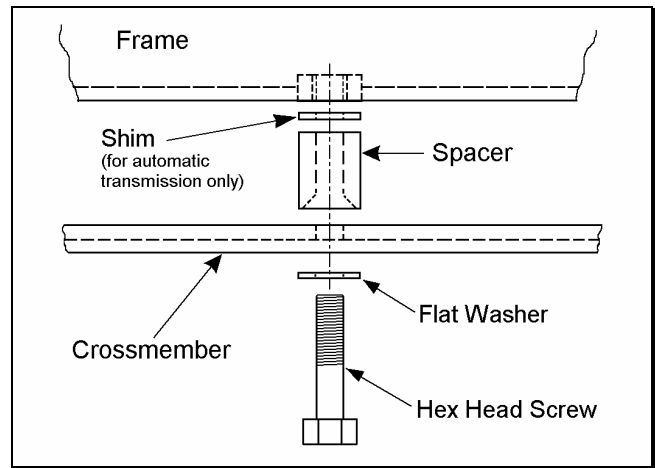

Figure 18
- 5) ☐ If hex head screws were removed, install the hardware from kit 860483. See figure 18.